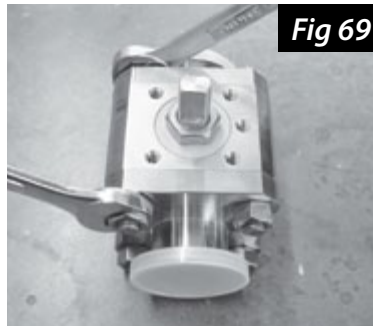
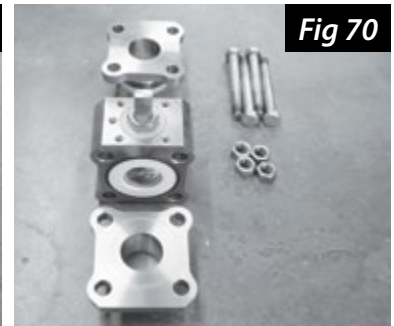

Fig 69
Fig 70
6. Remove the four body bolts using the two wrenches specified below (Fig 69). Remove the end caps and place them in a safe location (Fig 70).